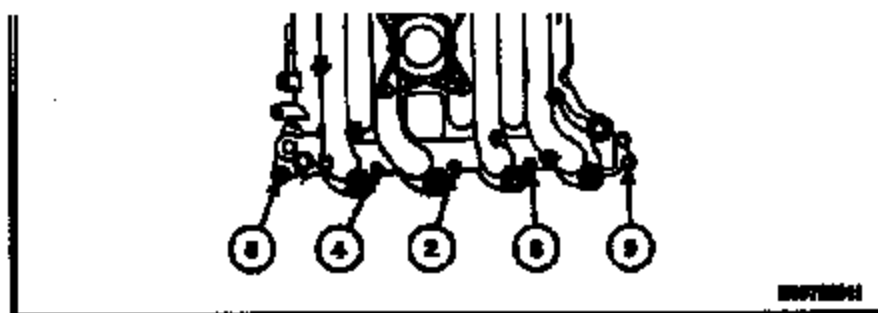

Figure 9
4. With an assistant's help, install intake manifold assembly. Tighten screws in sequence shown in Figure 9, to 20-30 Nm (15-22 lb/ft). Hand tighten bolt No. 7 prior to final tightening.